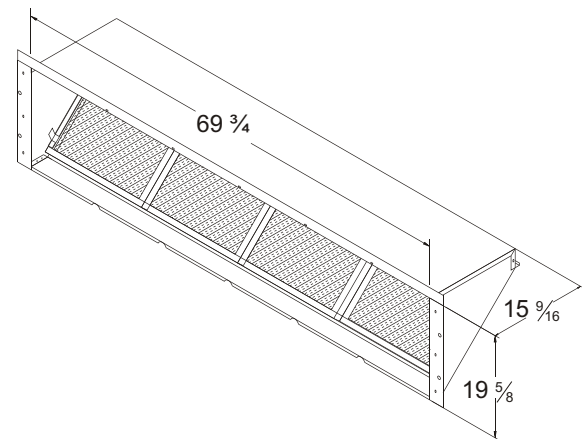

Figure 9
10. Install barometric relief hood over lower return opening on unit using screws provided as shown in Figure 9.
11. Place supplied gasket on four flanges of barometric relief hood that mate to unit surface when installed. Install barometric relief hood over lower return air opening of economizer and secure to unit using screws provided as shown in Figure 9.
12. Install fresh air hood over fresh air opening of economizer and secure to unit using screws provided as shown in Figure 9.